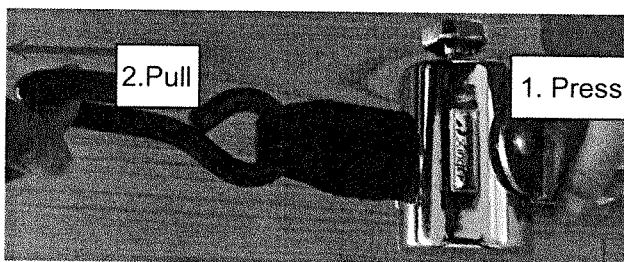

Figure 6.2.1
- Pull the hook, press the red button, and then pull out the belt as figure 6.2.1;